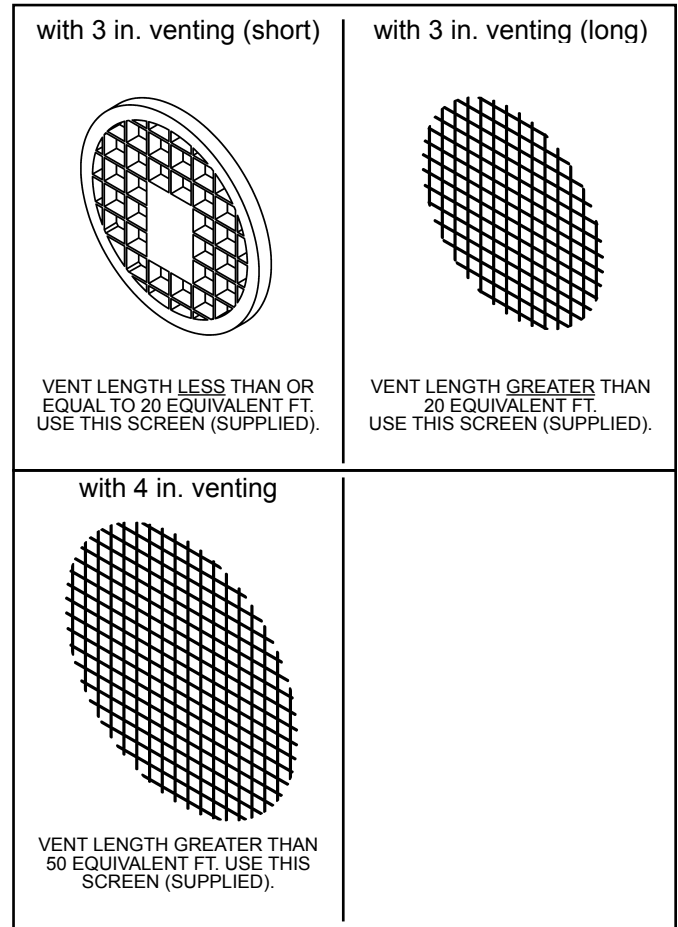

Figure 32
- Supplied with this heater are several vent termination screens (see Figure 32).
Installed in the vent termination elbow, the vent screen is required to keep foreign objects, rodents and small birds from entering the venting system. These screens have been sized to ensure maximum energy efficiency of the vent system based on the “equivalent length” of the vent piping. **CHOOSE ONLY the ONE SCREEN THAT MATCHES YOUR VENTING CONFIGURATION** (see Figure 32). How to determine the “equivalent length” is shown in Figure 34 and in Table 2.
\* see Figure 32, "Venting terminations and sizing" and "Vent screen installation".
11. Install the properly sized rodent screen into the outlet elbow and secure with a small quantity of silicone sealant. Refer to Figure 32 to determine the proper screen.